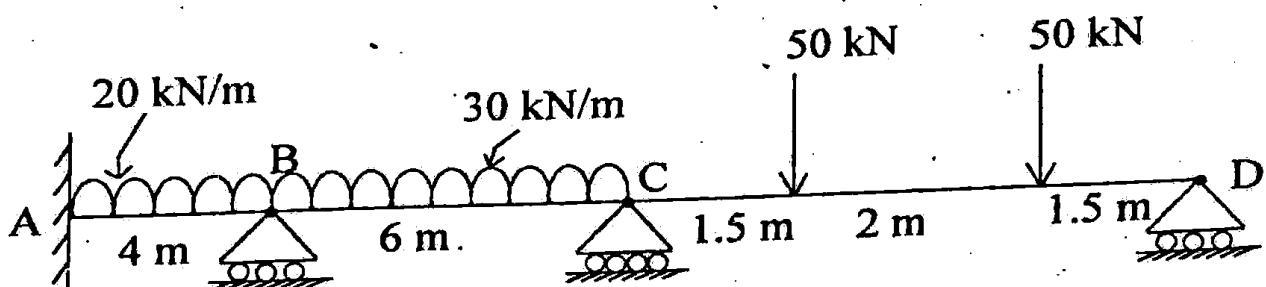

Fig. 8
8. Analyse the given continuous beam by Stiffness Method and draw BMD. Take  $EI = 1$  units (Refer Fig. 8) 13